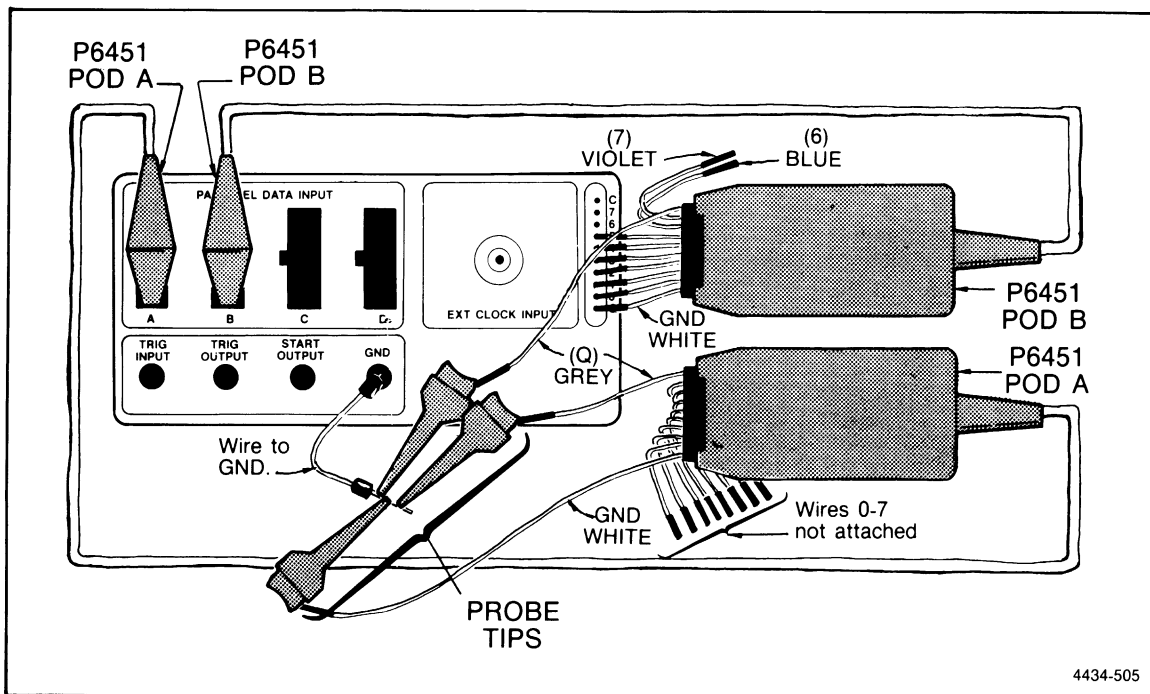

Figure 5-11. 318 Trigger qualifier check setup.
- a. Refer to Figure 5-11. Connect the data leads of the P6451 Parallel Data probe in Pod B to TEST OUTPUT as follows: